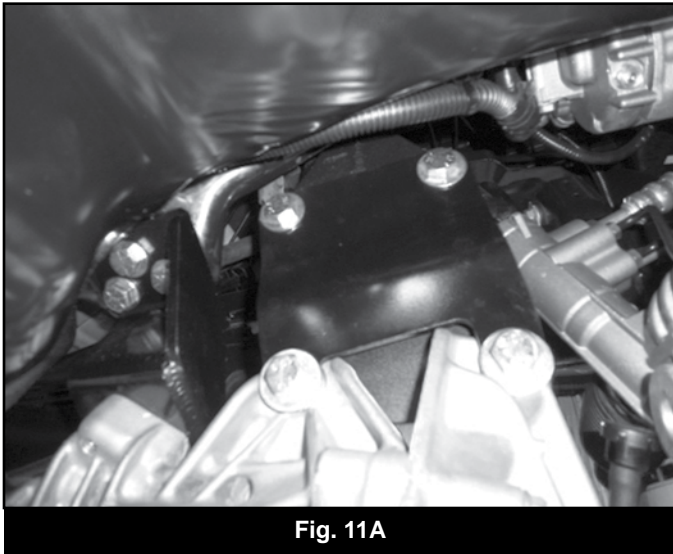

Fig. 11A
38. Install the two front driver's side differential drop brackets so that the bracket with the small offset (01236) is toward the outside of the vehicle (offsetting out) and the one with the bigger offset (02278) is on the inside (offsetting in). The brackets should taper down in height as they go toward the rear of the vehicle (for correction of the pinion angle). Fasten the brackets to the frame with two 12mm x 40mm bolts and washers into the factory threaded holes (BP #660). Leave hardware loose. (Fig. 11a / b)